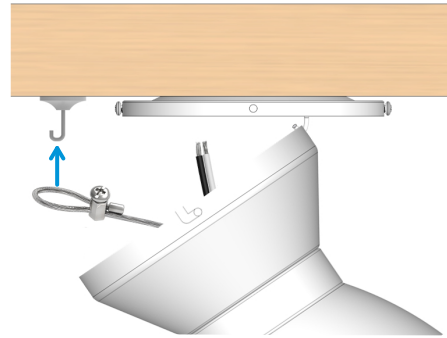

Fig. 3.2
**Option 1:** Refer to Fig. 3.2. Hang the safety rope on the ceiling hook (not included). Using a screwdriver, loosen the screw on the safety rope lock. Pull the safety rope taut and then tighten the screw on the safety rope lock to ensure a firm and secure connection between the safety rope and the ceiling hook. Always double-check to ensure the safety rope is taut.